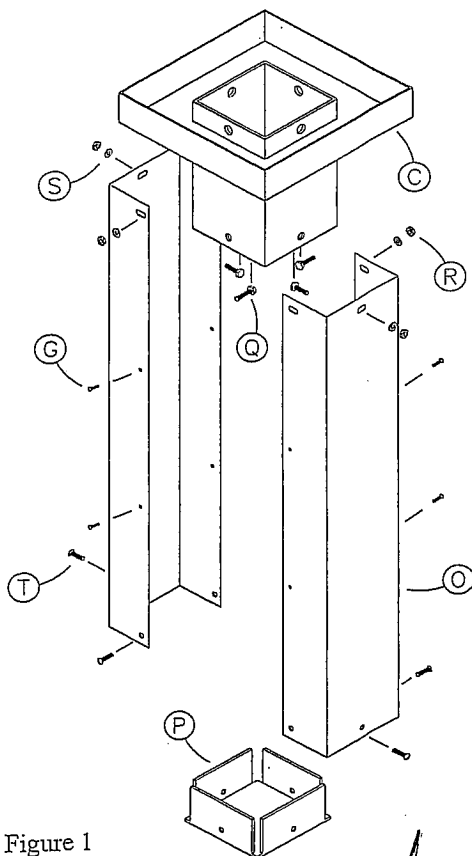
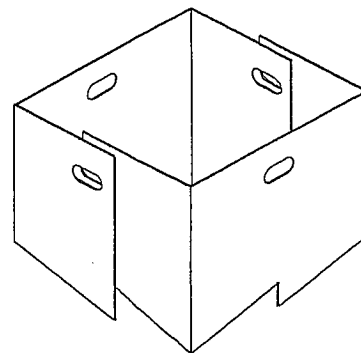

Figure 1
Figure 2
1. Assemble the *socket sides* (O) to the outside of the *socket top* (C) using 3/8" *bolts* (Q), *lock washers* (R) and *nuts* (S); and to the outside of the *socket bottom* (P) using 5/16" *Truss head screw* (T). (See Figure 1) The *socket sides* should overlap. (See Figure 2) Use the 1/4" *self tapping screws* (G) to connect the *socket sides*. (See Figure 1) Tape the side seams to prevent concrete from seeping into the socket. Leave the bottom edges open to allow drainage.